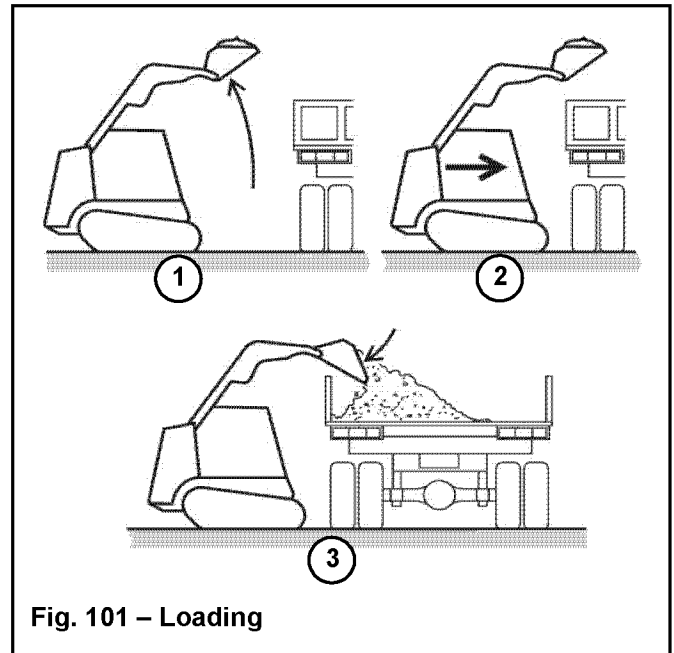

Fig. 101 – Loading
1. Approach the truck and stop, then raise the bucket until the lower edge of the bucket clears the truck bed (Fig. 101).